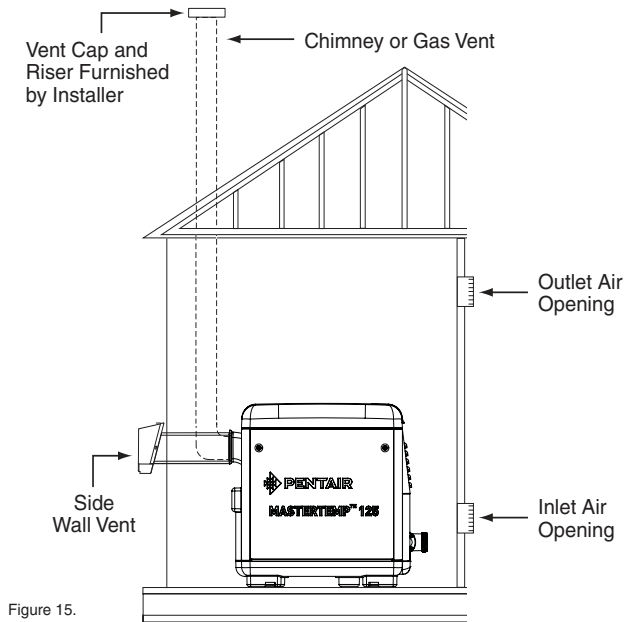

Figure 15.
HORIZONTAL OR VERTICAL VENTING - POSITIVE PRESSURE (See Figures 15, 16, and 17) (Category III)
6. **Vent Termination – Vertical** (See **Figures 15 and 16**), for height of vent termination above the roof. Use an "Approved" vent terminal specified by local and national codes and your manufacturer's instructions. A roof termination must be vertical. In Canada, the Vent Cap location shall have a minimum clearance of 4 feet (1.2M) horizontally from electric meters, gas meters, regulators, and relief openings.